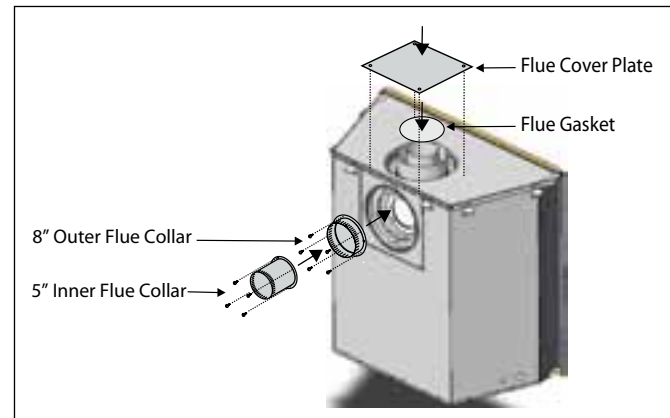

Figure 9a. Flue cover and collar installation, *Rear Vented, N.G. equipped fireplaces ONLY.*
4. Install the (5" and 8") collars to the rear vent outlet using the included hardware, as illustrated **Figure 9a**.
3. Install the (removed) Rear flue cover and gasket material, to the Top vent outlet. Fasten the cover with included hardware, as illustrated **Figure 9a**.